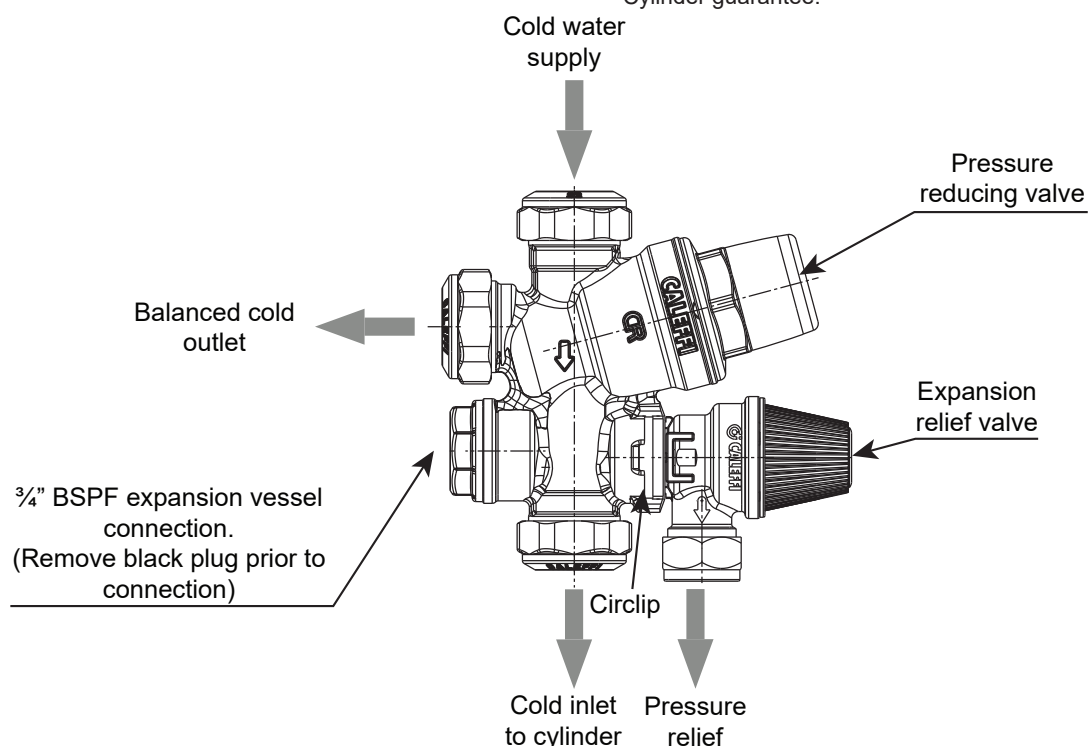

Figure 4-1: Cold water inlet manifold (orientation as fitted on a Grant QR cylinder)
A balanced cold water connection is provided on the inlet manifold. Refer to Figure 4-1. This should only be used to provide balanced cold supplies to shower valves and mixer taps. If the balanced cold water outlet is not required, blank off this port.
6. Connect the expansion vessel directly to the ¾" BSPF connection in the inlet valve manifold body, after removing the black plastic plug. See Figure 4-1 and Section 4.4.
This expansion vessel must be connected into the cold water supply, between the expansion relief valve (in the inlet manifold) and the cold water inlet to the cylinder. Refer to Figure 4-1.
The preferred method of connection is to hard pipe the expansion vessel directly to the $\frac{3}{4}$ " BSPF connection in the inlet valve manifold body using 22mm diameter pipe. Refer to Figure 4-1.
1. Remove the black plastic plug from the inlet manifold body (refer to Figure 4-1).